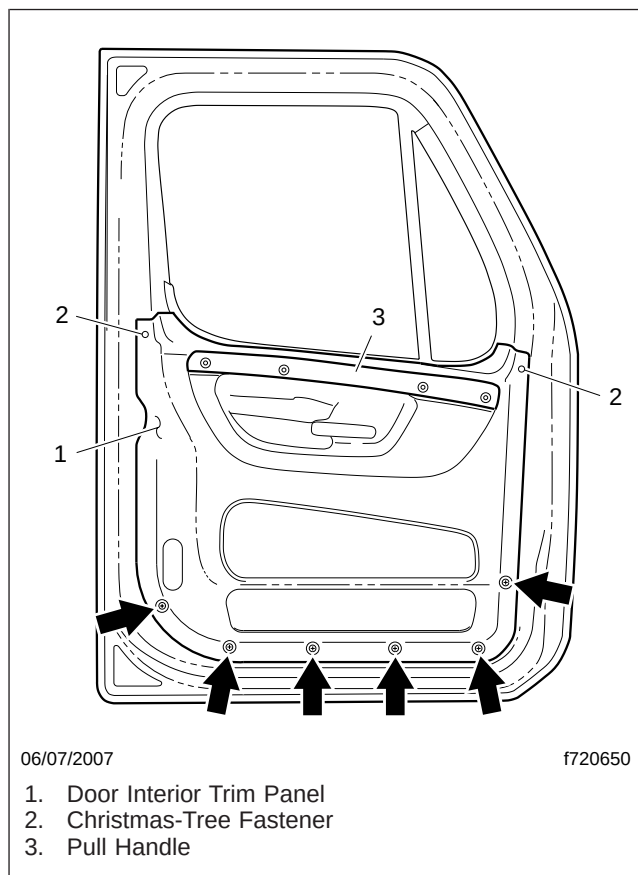

Fig. 1, Door Interior Trim Panel Screws (arrows)
2. Open the door, and remove the pull handle by removing the four Torx screws that attach it to the door cassette; see Fig. 1.